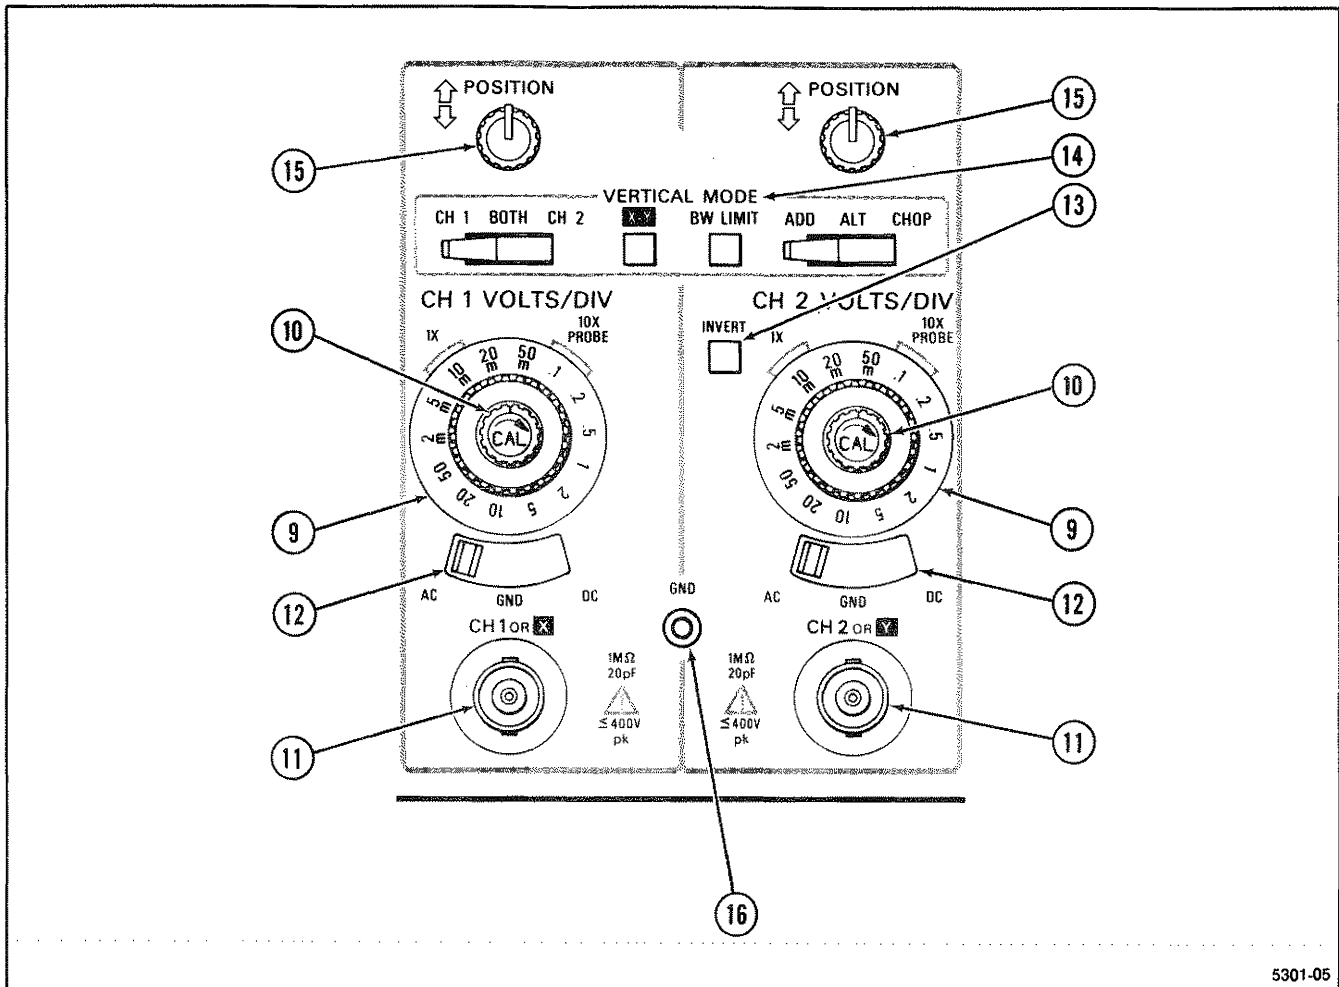

Figure 3-2. Vertical controls and connectors.
See Figure 3-2 for the location of items 9 through 16.
- ⑨ **VOLTS/DIV Switches**—Select the vertical channel deflection factors from 2 mV to 5 V per division in a 1-2-5 sequence.